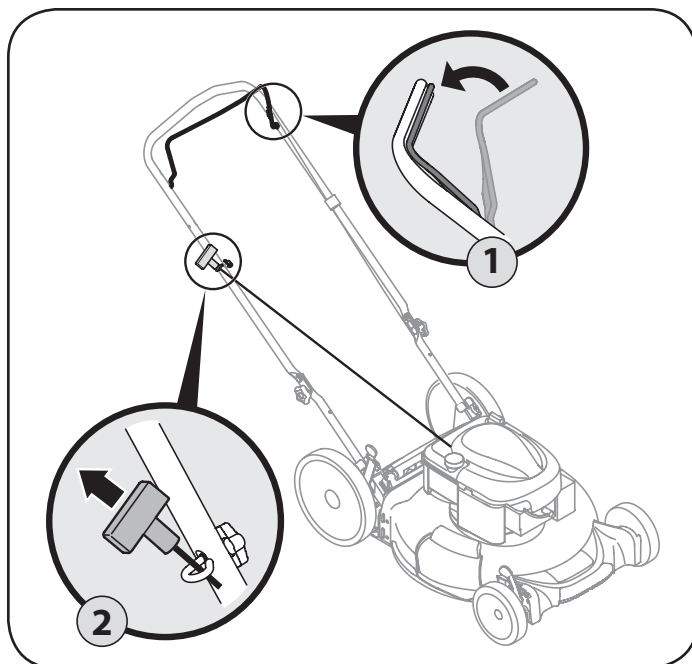

Figure 14
1. Standing behind the unit, depress the blade control handle and hold it against the upper handle as shown in Figure 14.